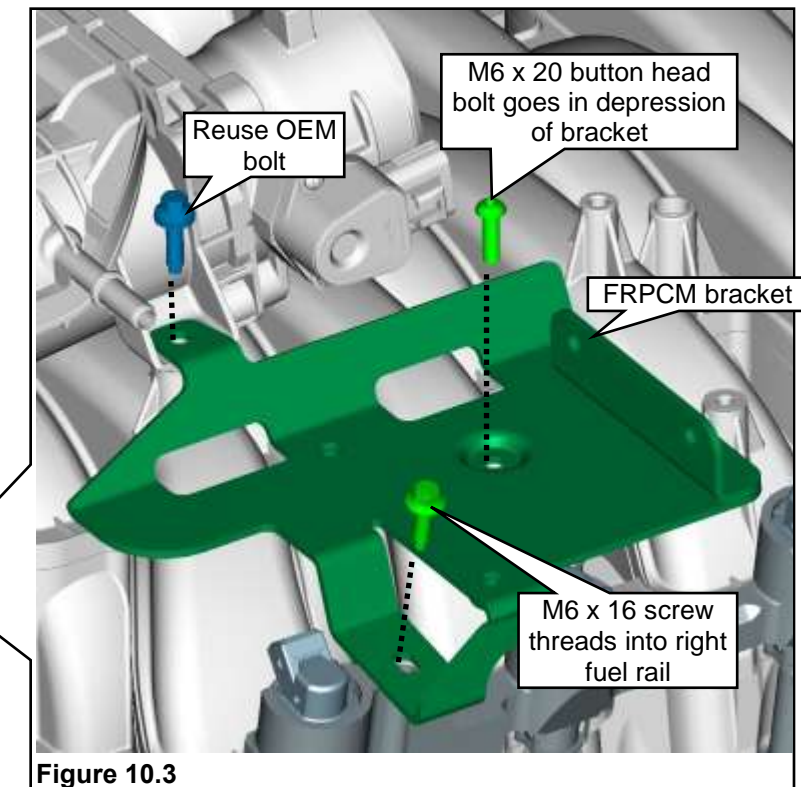

Figure 10.3
2. Position the FRPCM mounting bracket to the engine. **Figure 10.3.** Install the OEM throttle body adapter bolt, the button head bolt in the depression of the bracket and a third bolt at the rear of the bracket into the right fuel rail. Tighten bolts to 8–12 Nm.
3. Position the SRM bracket on the right inner fender in front of the battery tray, on top of the fender. Install the top front fender bolt to position and stabilize the bracket. **Figure 10.3.**
4. Install one M6 bolt at the bottom front of the bracket. Tighten the bottom front bolt to specification. **Figure 10.3.**